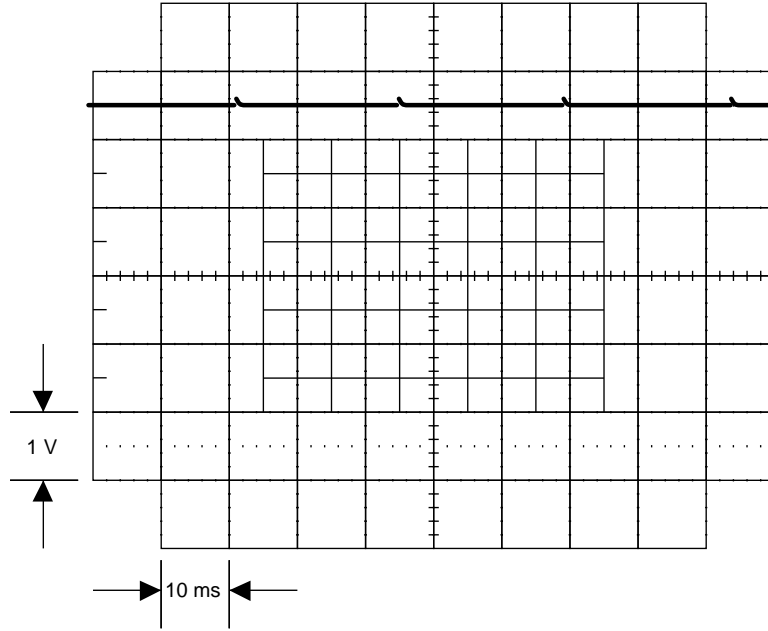

Figure 5-17. Waveform at TP6
3. Check CH1 SHUNT. Connect an oscilloscope probe to TP6 (with common connected to TP3). Set the oscilloscope to 2V/div at 2 ms/div and verify it displays pulses as shown in Figure 5-17. If the displayed signal is incorrect, skip to Duty Cycle Control Circuit.